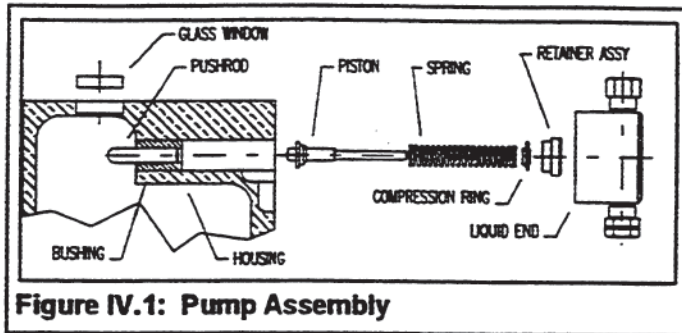

Figure IV.1: Pump Assembly
housing. Pull the liquid end straight out from the pump housing, in line with the axis of the piston. If you cock or tilt the liquid end, you may break the piston. See Figure IV.1.
13. Reinstall the liquid end on the pump. See Figure IV.1; page 22.